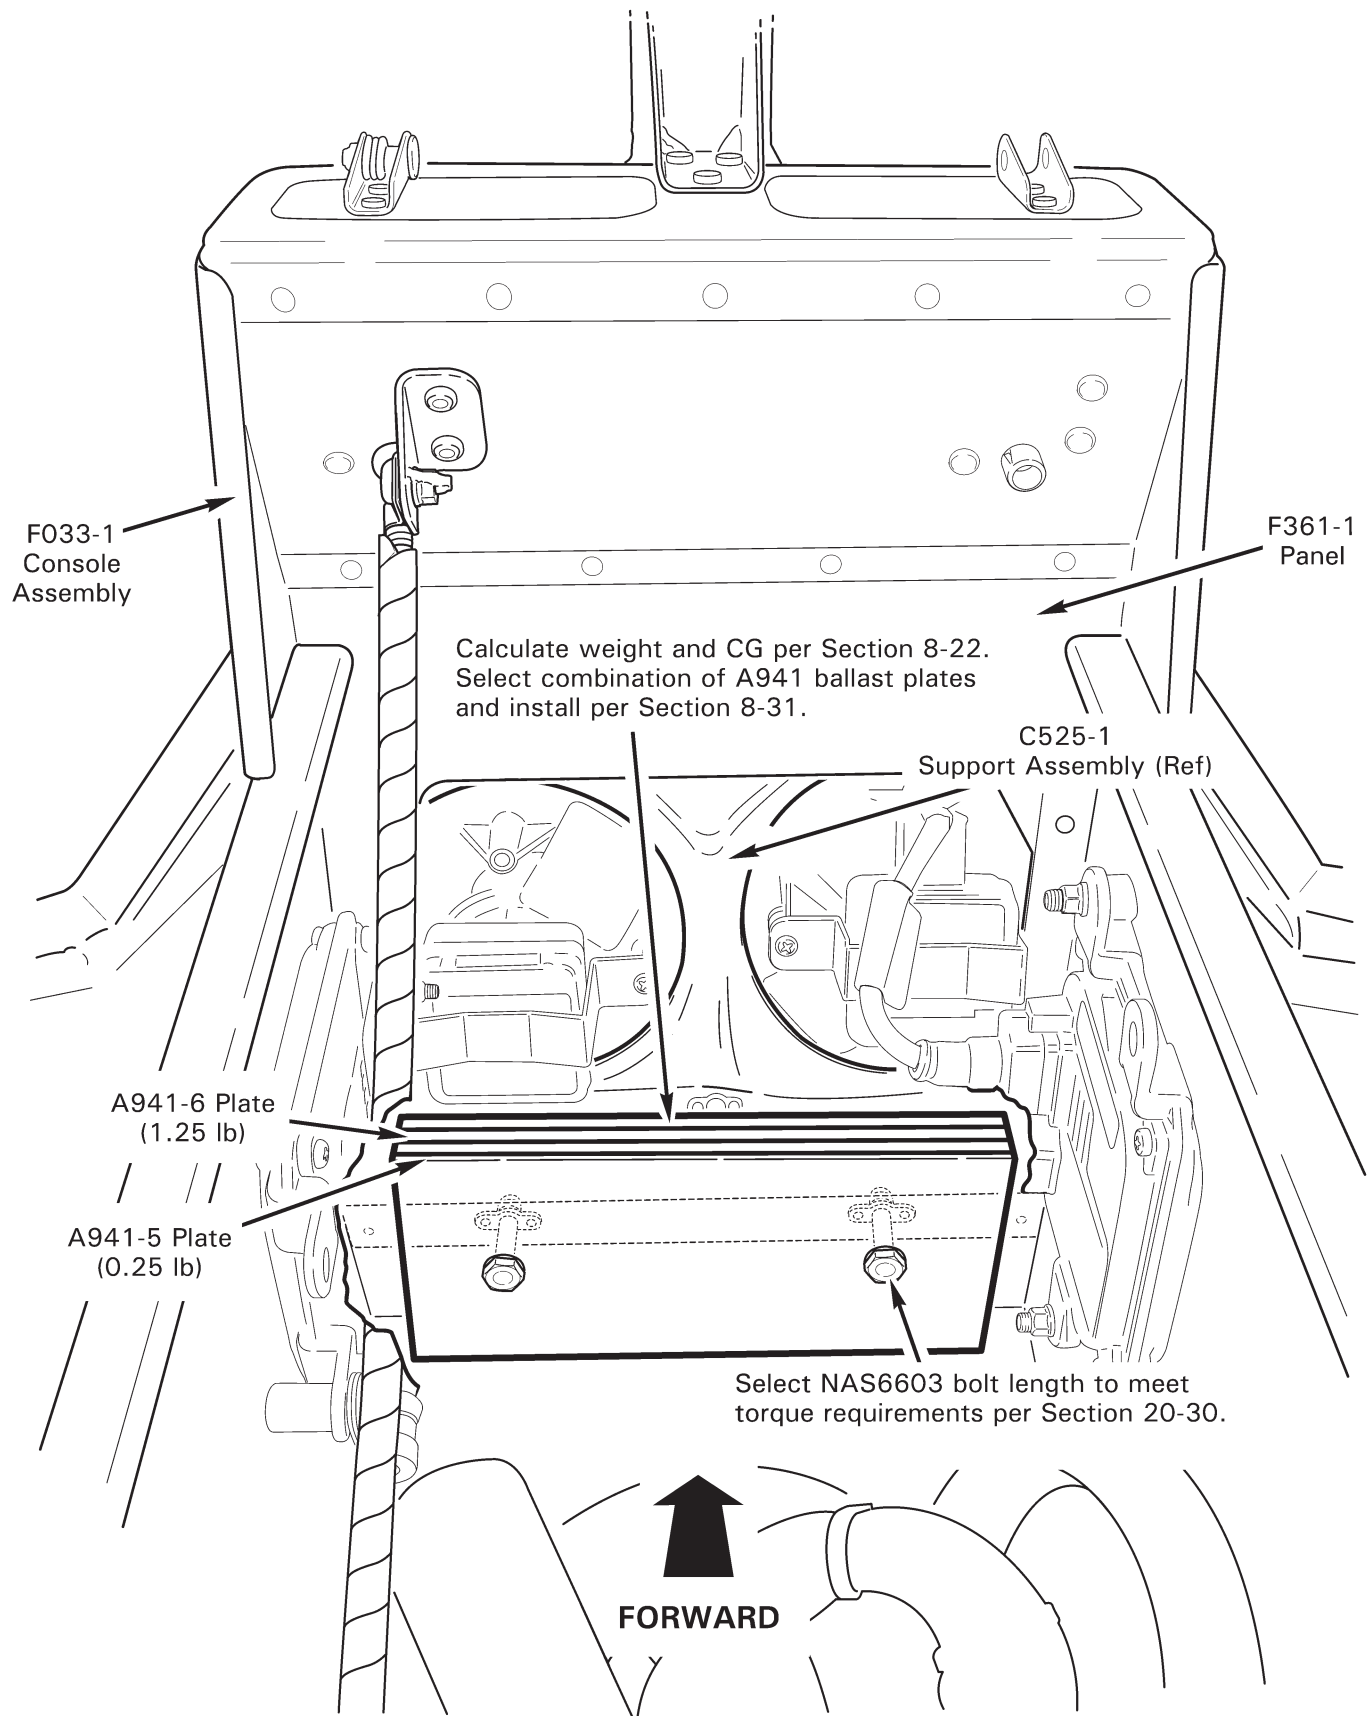

FIGURE 8-4 NOSE BALLAST
2. Refer to Figure 8-4. Remove hardware securing A941-5 or -6 ballast plate(s), if installed, to F361-1 panel.